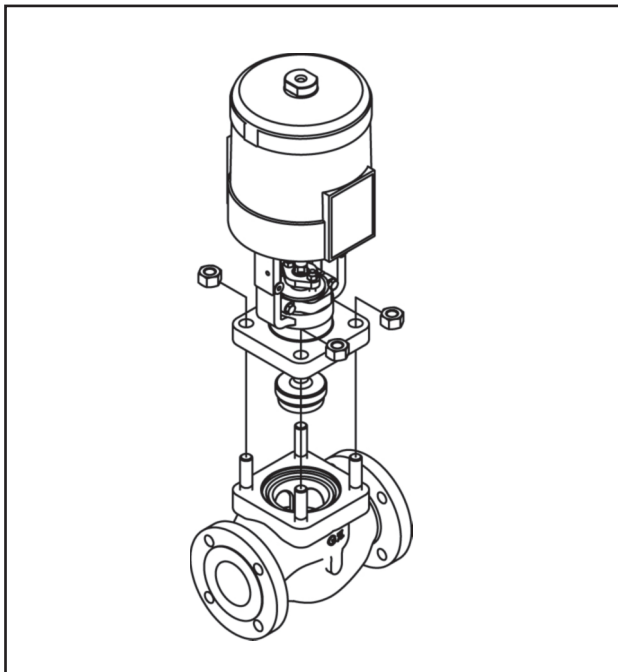

Figure 3
- ▷ Remove the bonnet flange nuts and then lift the actuator, bonnet and plug, taking them out of the valve (Fig. 3).